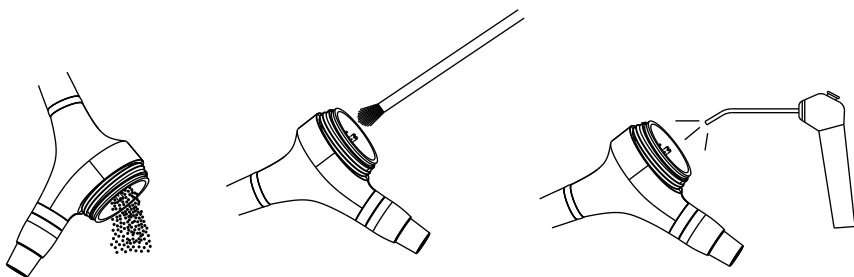

Figure 10 Powder cleaning
1. Powder cleaning (See figure 10)